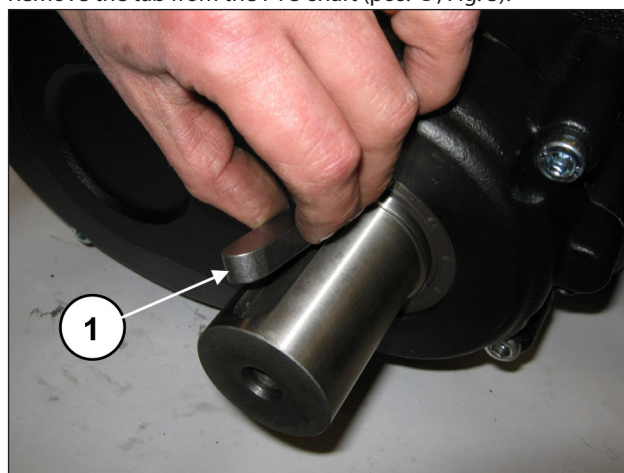

Fig. 3
Remove the tab from the PTO shaft (pos. ①, Fig. 3).